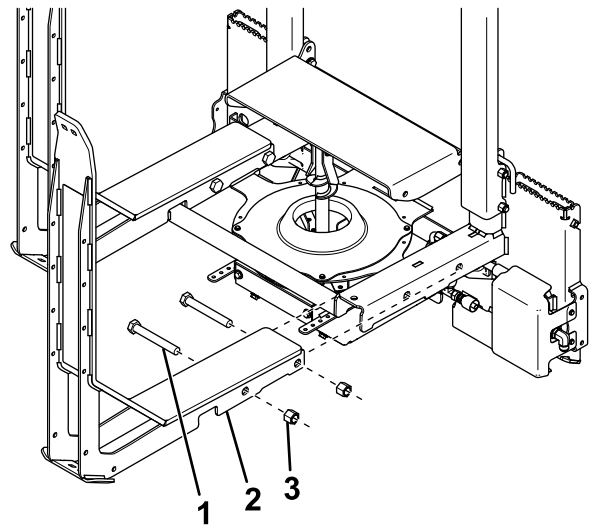

Figure 4
4. Slide an angled fork onto 1 of the spreader side arms and secure it with 2 bolts (3/4 inch) and 2 nylon locknuts (3/4 inch) as shown in Figure 4.